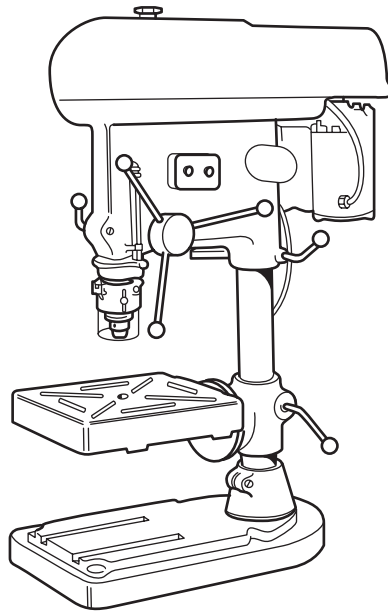

Fig. 6
- 4 Circular holes in metal are cut using a drilling machine similar to the one illustrated in Fig. 6.